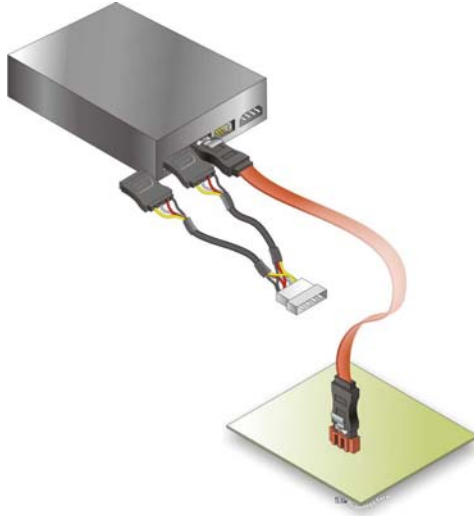

Figure 5-12: SATA Power Drive Connection
Step 3: Connect the cable to the SATA disk. Connect the connector on the other end of the cable to the connector at the back of the SATA drive. See **Figure 5-12**.
Step 4: Connect the SATA power cable. Connect the SATA power connector to the back of the SATA drive. See **Figure 5-12**.